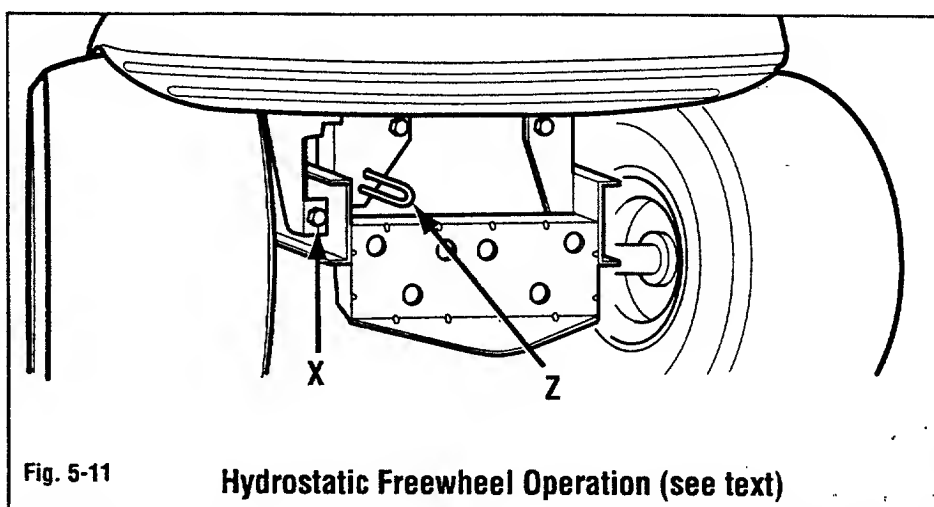

Fig. 5-11
**Hydrostatic Drive Units:** Pull hydrostatic freewheeling actuator (Z, Fig. 5-11) out and rotate to place in the locked position before pushing unit. After pushing unit, return the freewheeling actuator back to the normal position. Transmission will not engage when freewheeling actuator is pulled out.
It is possible to customize tractor lift mechanism to operator and terrain. To adjust spring tension, tighten or loosen screw (X, Fig. 5-11).